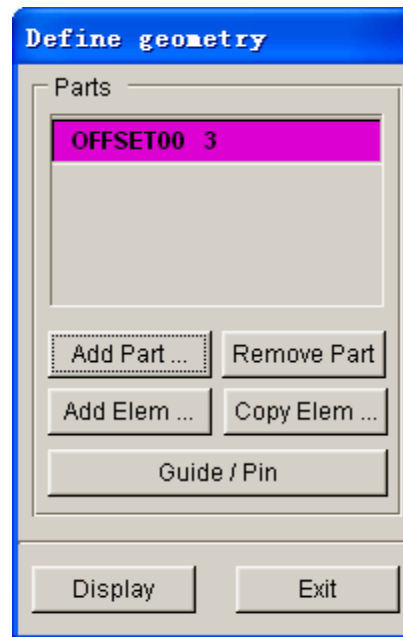

Figure 1.25 Punch geometry list
16. A new part named **OFFSET00** is created and added to the list of punch. See Figure 1.25.